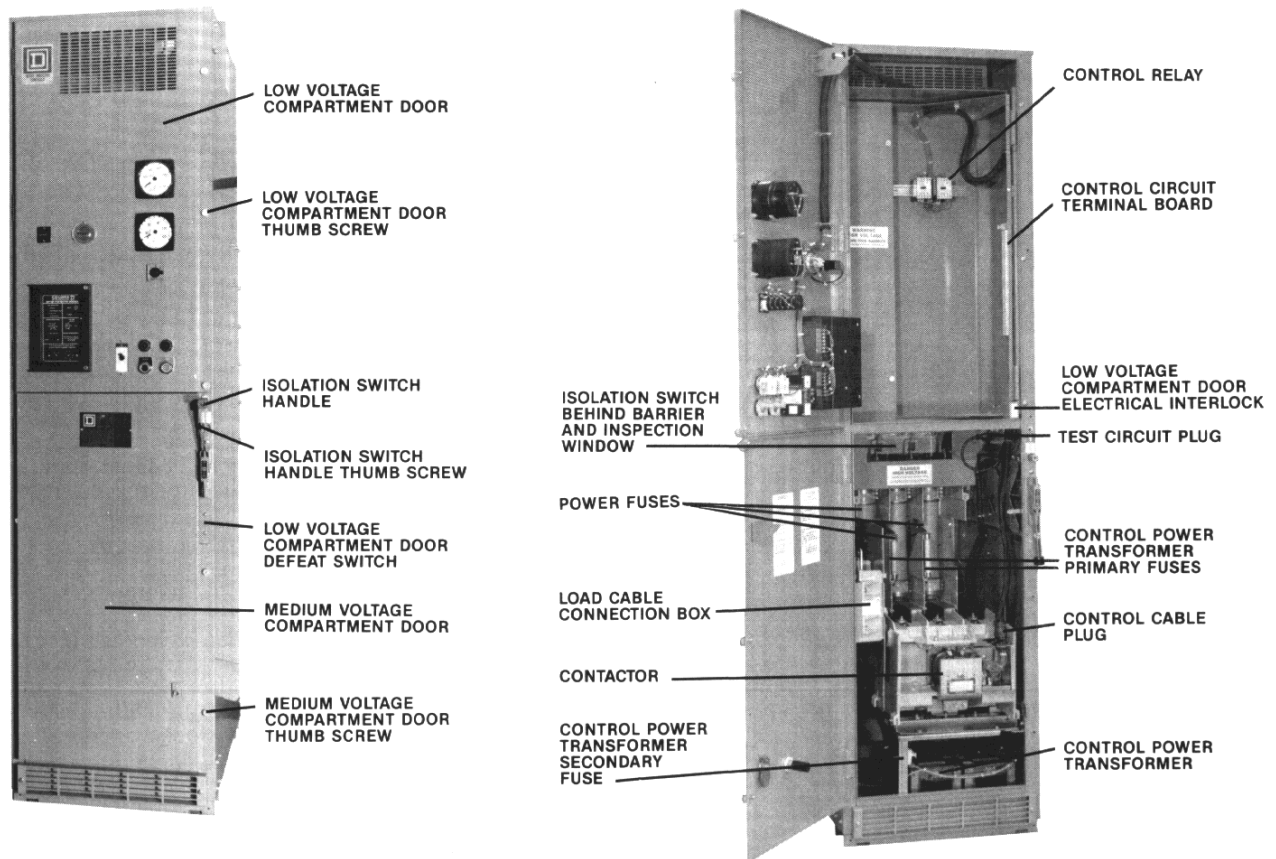
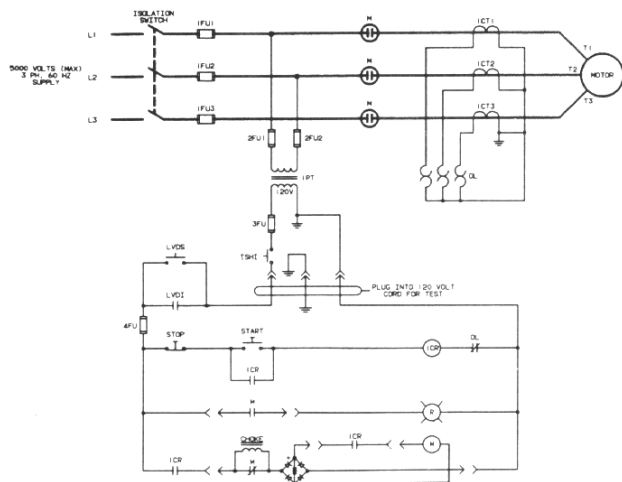
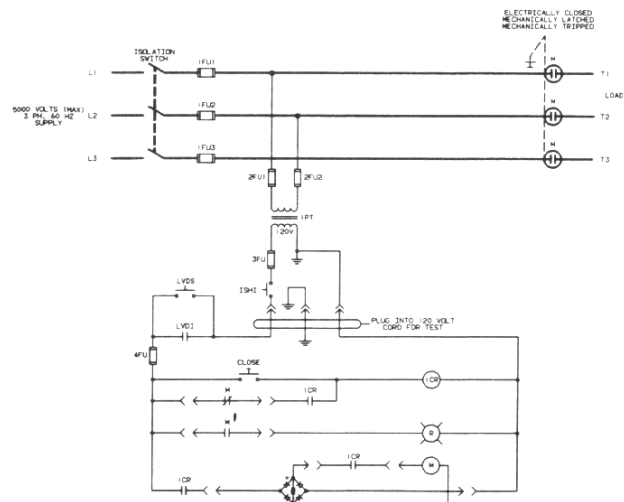

FIGURE 1
FIGURE 2
FIGURE 3
This service bulletin will familiarize the user with the location and identification of standard controller parts (Figure 1), and explain the basic control circuit sequence of a full voltage non-reversing controller (Figure 2) and a feeder disconnect controller (Figure 3).
A. The basic full voltage non-reversing controller (See Figure 2) includes:
- 360 ampere, 3 pole electrically held vacuum contactor (M)
B. The basic feeder disconnect controller (See Figure 3) includes:
- 360 ampere, 3 pole mechanically held vacuum contactor (M)